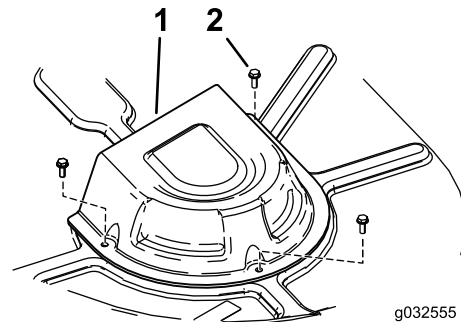

Figure 61
4. Remove the pulley covers (Figure 61).
- Install the pulley covers (Figure 61).